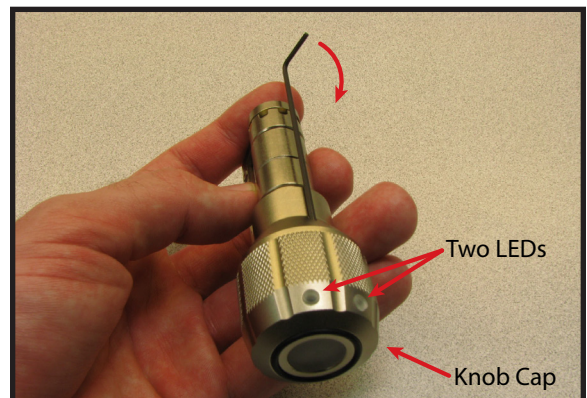

Figure 7: *Loosen Set Screw*
- 1.1) Use a FlashLock T6 Torx wrench (HDM1893) to loosen the set screw as shown in Figure 7. Rotate the wrench clockwise from the front of the lock.